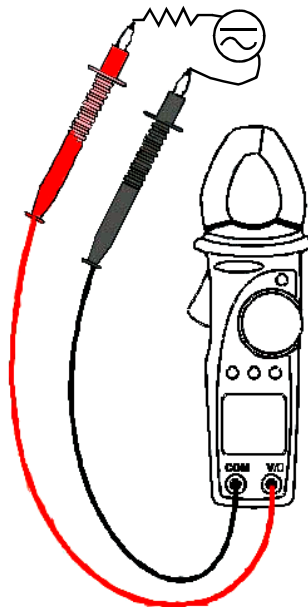

Fig. 5: Use of clamp for AC/DC uA current measures
2. Insert the test leads into the jack, the red lead into "+" jack, and the black lead into the COM jack. Refer to Fig. 5.
5. Press R-H key you can select manually the measurement ranges in cyclic order. Press R-H key 2 seconds to return to the AUTOMATIC range selection.